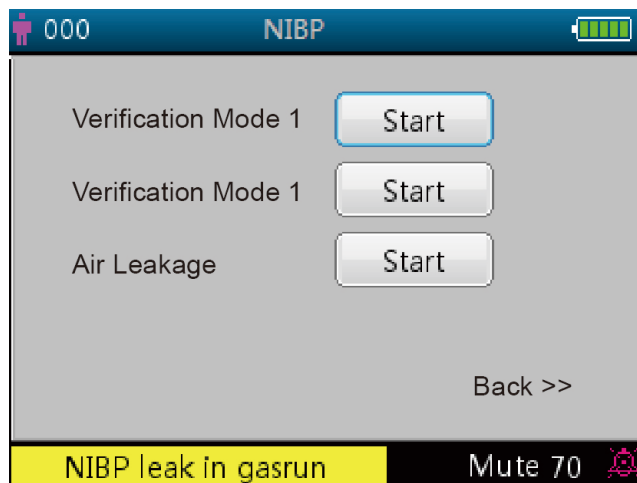

Figure 4.14 NIBP verification setup screen
- ✧ **"More >> "**: page down icon. Move the cursor to the last item ("Lock"), then short press the Down " " key to enter into NIBP verification setup screen, as shown in figure 4.14.